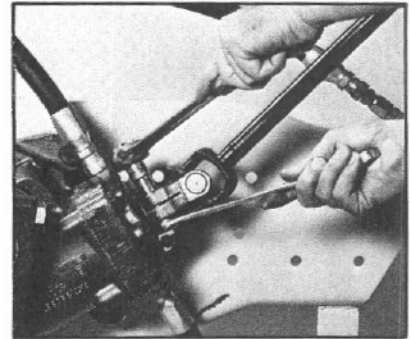

Figure 17
- 2.1 If there is a leak in the input shaft seal, you can usually replace the seal assembly with the gear on the vehicle. Start by removing the input coupling (FIG. 17).